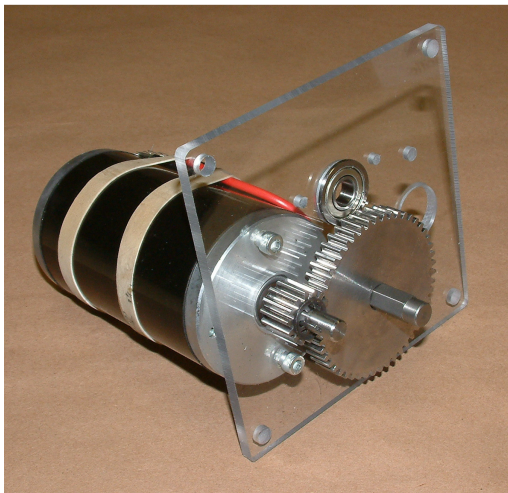

Fig. 6
Step 6. Place the Small Hex Shaft into the bearing closest to the motor pinion. Place the Large Cluster Gear (with the smaller hex hole) onto the Small Hex Shaft. Make sure the teeth of this gear mesh well with the CIM Gear. Also, be sure to place the gear so that the small boss (raised surface) around the hex hole is facing the bearing on the Mount Plate (see Fig. 6).